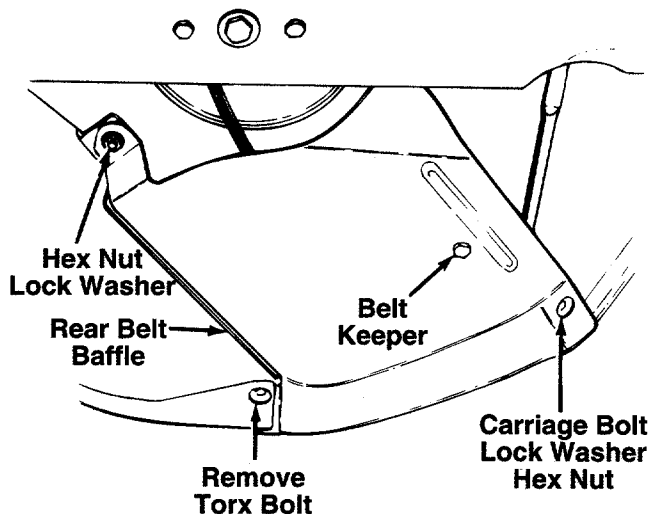

FIGURE 18.
4. Remove the rear belt baffle by removing the lock washer and hex nut shown in figure 18. Then remove one Torx bolt, using a #27 Torx driver. A 9/64" Allen wrench may also be used. Then remove one carriage bolt, lock washer and nut as shown.